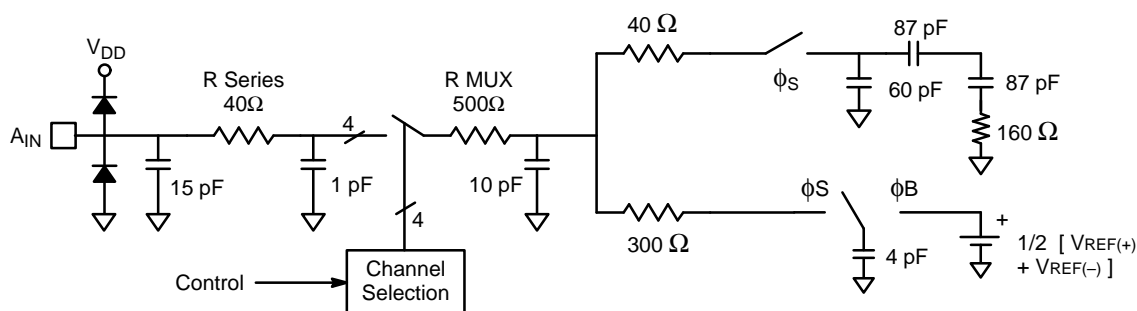

Figure 9. Analog Input Equivalent Circuit
- ³ See V_{IN} input equivalent circuit (see Figure 9.).
The MP8798's performance is optimized by using analog input circuitry that is capable of driving the A_{IN} input. Figure 9. shows the equivalent circuit for A_{IN} .